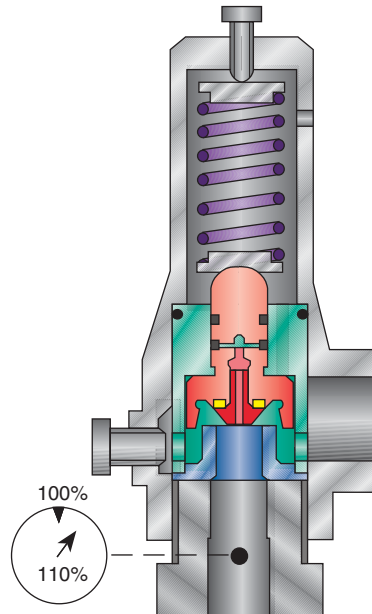

Figure 9
3. After initial flow at set pressure, the Type 81P valve will smoothly and progressively open with system pressure increase. The valve will reach full lift and rated capacity by 10 percent overpressure (see Figure 9, page 49).